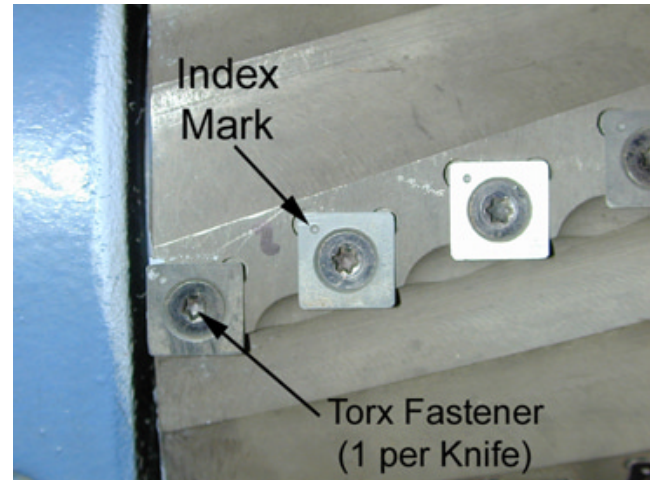

Figure 36
12. **Figure 36** shows a closeup of the cutterhead. Notice the *indexing marks* on each knife. Set a practice in your shop to always rotate the knives clockwise. When the index mark is next in the upper left position (after 4 rotations), it is time to replace all the knives.